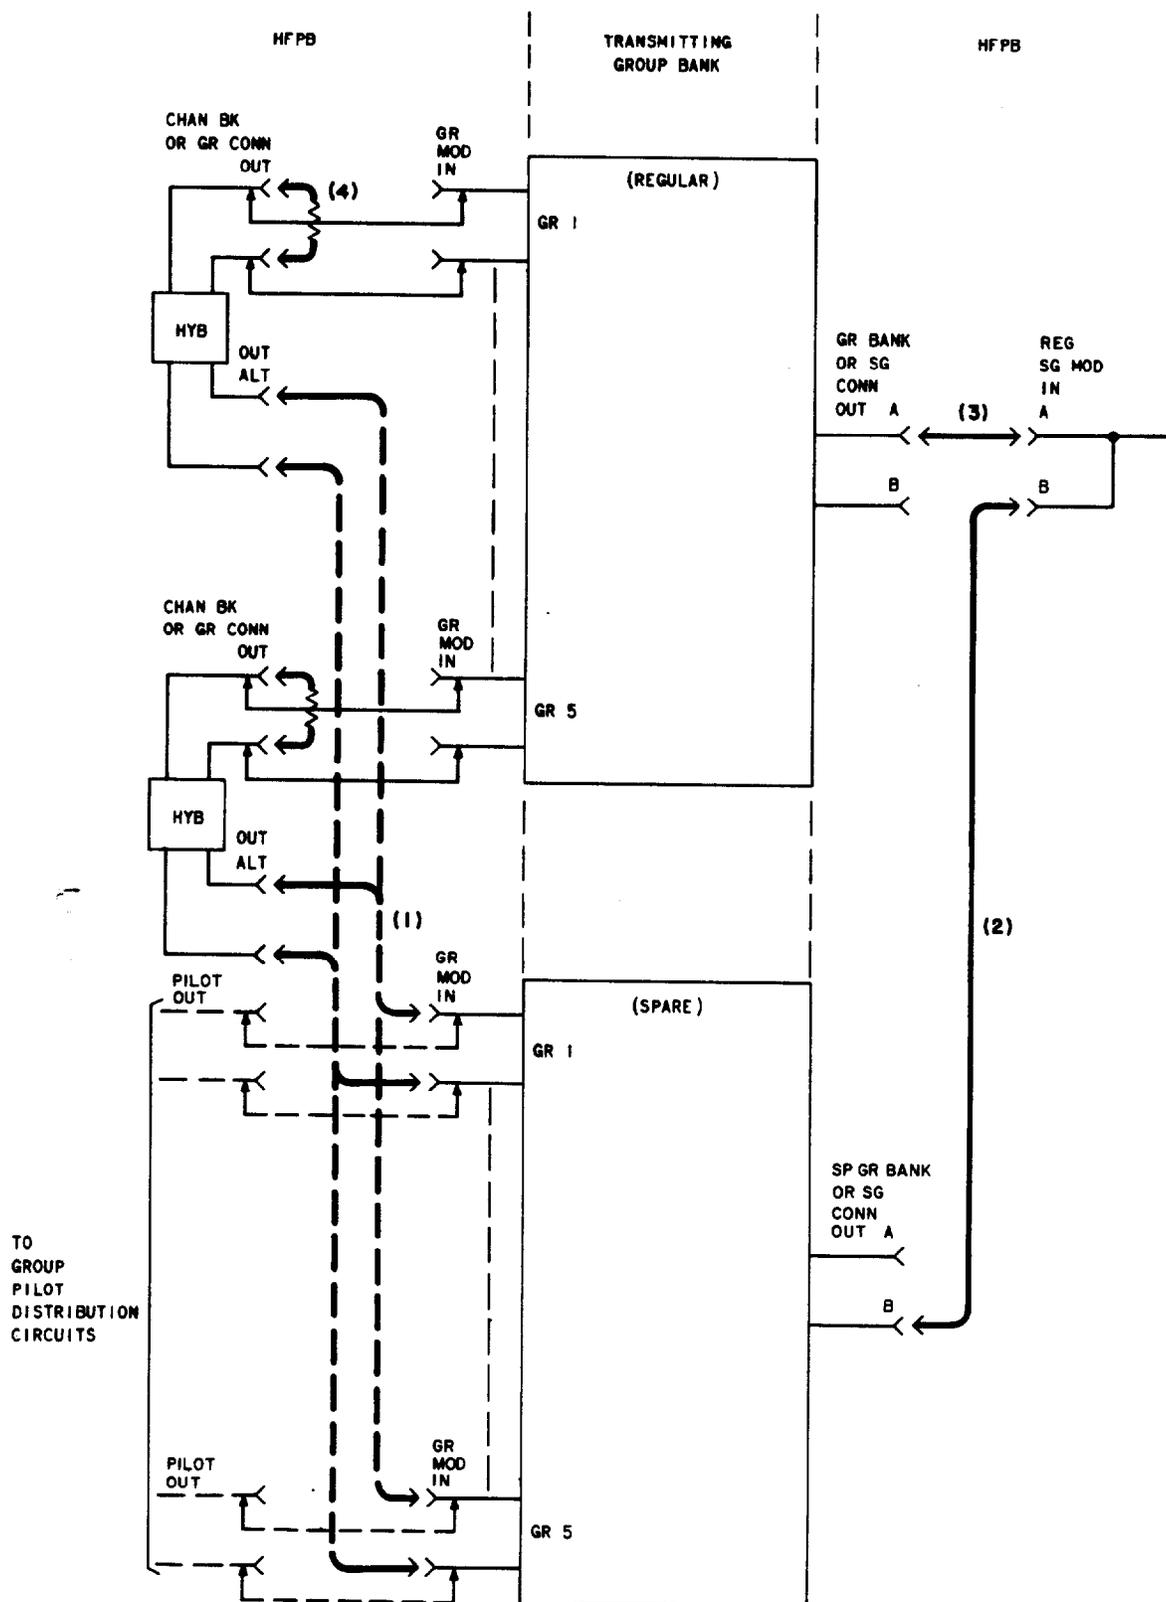

Fig. 2—Regular Transmitting Group Bank—Patching Procedure
- (a) Connect the spare GR MOD IN jacks for group 1 to its associated regular CHAN BK or GR CONN OUT ALT jacks [patch (1), Fig. 2].
- (b) Repeat (a) for groups 2 through 5 [patch (1), Fig. 2].
- (d) Connect the SP GR BANK or SG CONN OUT B jack to the REG SG MOD IN B jack [patch (2), Fig. 2].
7 At the transmitting HFPB, remove the patch between the regular GR BANK or SG CONN OUT A and REG SG MOD IN A jacks [patch (3), Fig. 2].
9 At the transmitting HFPB, terminate, into 135 ohms, the regular CHAN BK or GR CONN OUT jacks associated with each group being patched [patch (4), Fig. 2].
- (a) Remove the 135-ohm terminations from the regular CHAN BK or GR CONN OUT ALT jacks of each group being restored [patch (4), Fig. 2].
- (c) Connect the regular GR BANK or SG CONN OUT A jack to the REG SG MOD IN A jack [patch (3), Fig. 2].
13	At the transmitting HFPB, remove the patch from the REG SG MOD IN B and SP GR BANK or SG CONN OUT B jacks [patch (2), Fig. 2].
15	At the transmitting HFPB, for each group being restored, remove the patch from the regular CHAN BK or GR CHAN OUT ALT jacks [patch (1), Fig. 2].